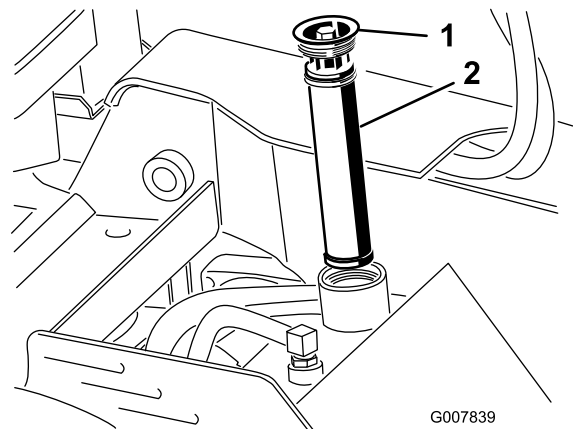

Figure 59
5. Remove and discard the old filter (Figure 59).
6. Install the replacement hydraulic filter and filler cap (Figure 59) and torque bolt on top to 110 to 140 in-lb (13 to 15.5 N-m).
6. Remove the hydraulic tank filler cap and filter (Figure 59).
12. Install the hydraulic filter and filler cap (Figure 59) and torque bolt on top to 110 to 140 in-lb (13 to 15.5 N-m).